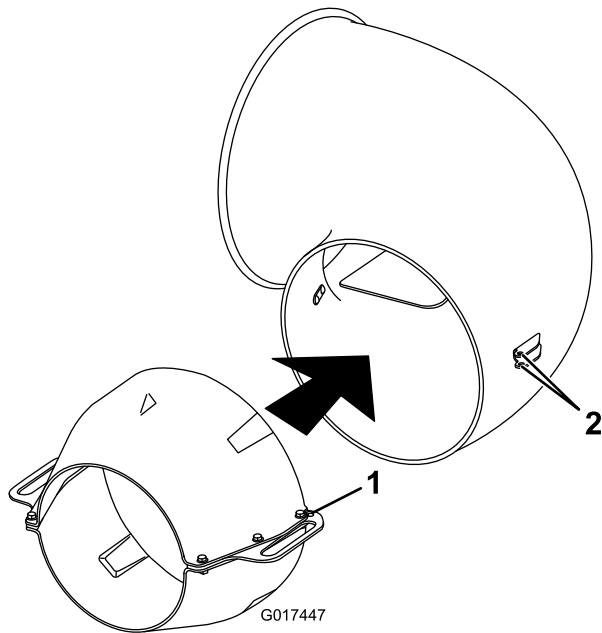

Figure 3
1. Slide the nozzle extension onto the nozzle, aligning the hole in each handle with the upper and lower holes in each attachment bracket on the nozzle (Figure 3).